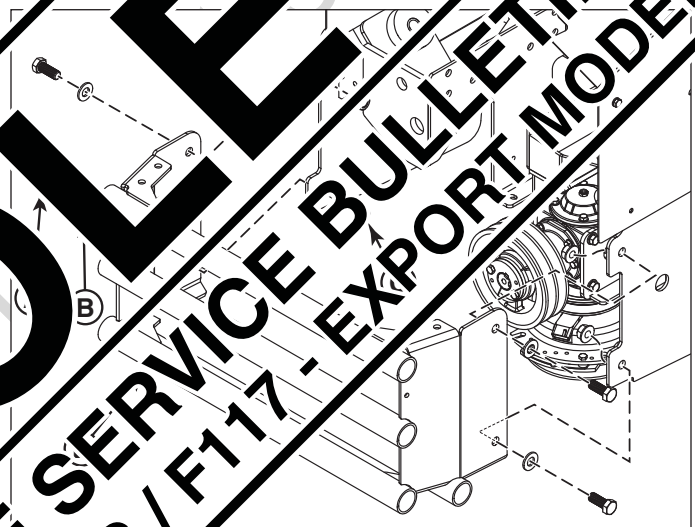

Figure 4. Remove the Rear Bumper
8. Remove the 1/2-13 X 1-1/4" bolts (**A, Figure 4**) 1/2 SAE washers (**B**) and 1/2-13 hex nylock flange nuts (**C**) that secure the bumper (**D**) to the rear of the machine. Remove the rear bumper. Discard the nuts.